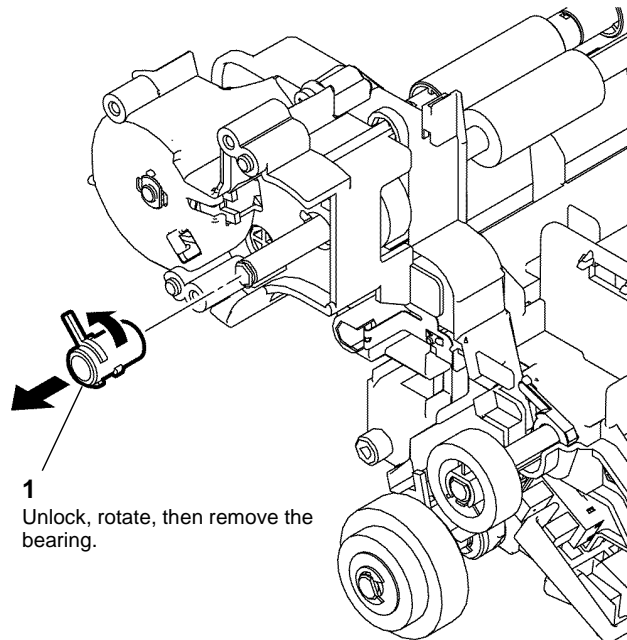

Figure 1 Registration bearings
NOTE: Figure 1 illustrates removal of the left registration bearing. Removal of the right registration bearing is identical.
2. Remove the right and left registration bearings, Figure 1.